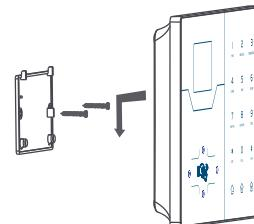

Figure 2-2
C.Put the main panel on the bracket right, and push the main panel downward, as show in Figure 2-2.